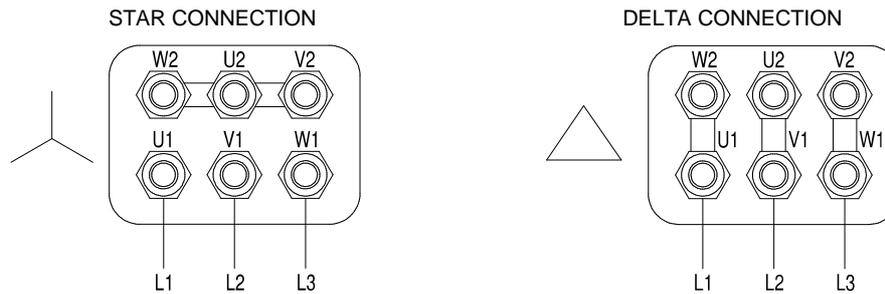

Fig.10 – Electrical connection
- check the star/delta connection of the wires to the motor terminals (see **Fig.10**)